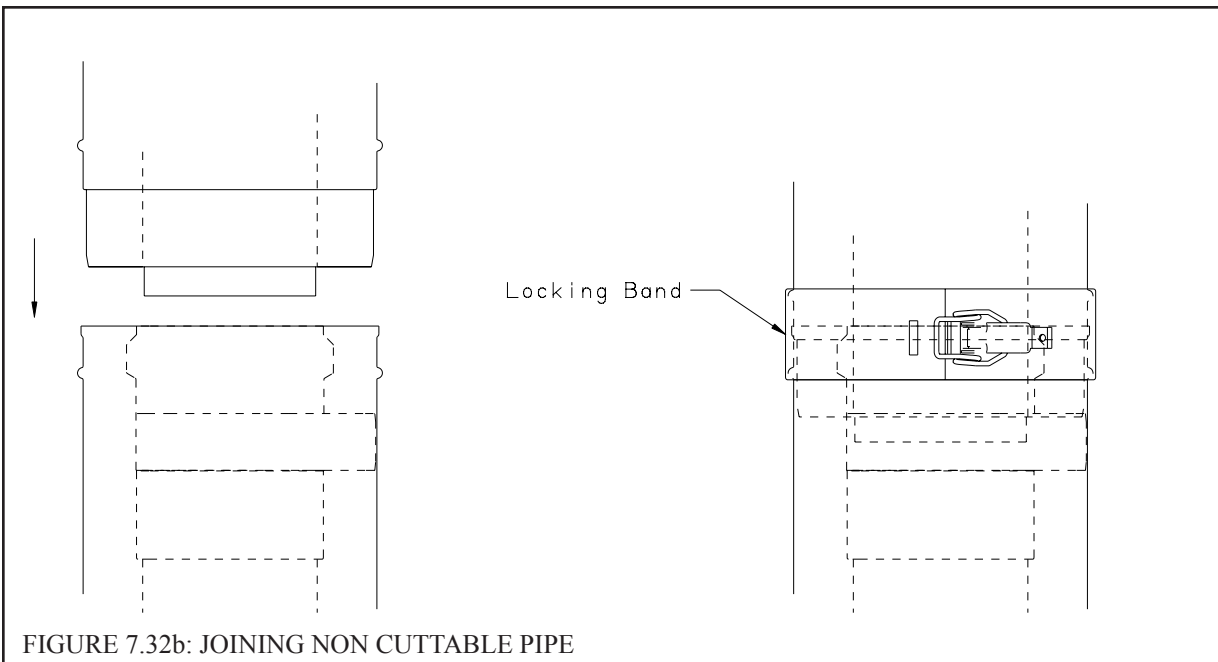

FIGURE 7.32b: JOINING NON CUTTABLE PIPE
- d) Use locking bands (provided with all fittings) to secure non-cuttable pipe, as well as fittings, to the boiler collar (Figure 7.32b).